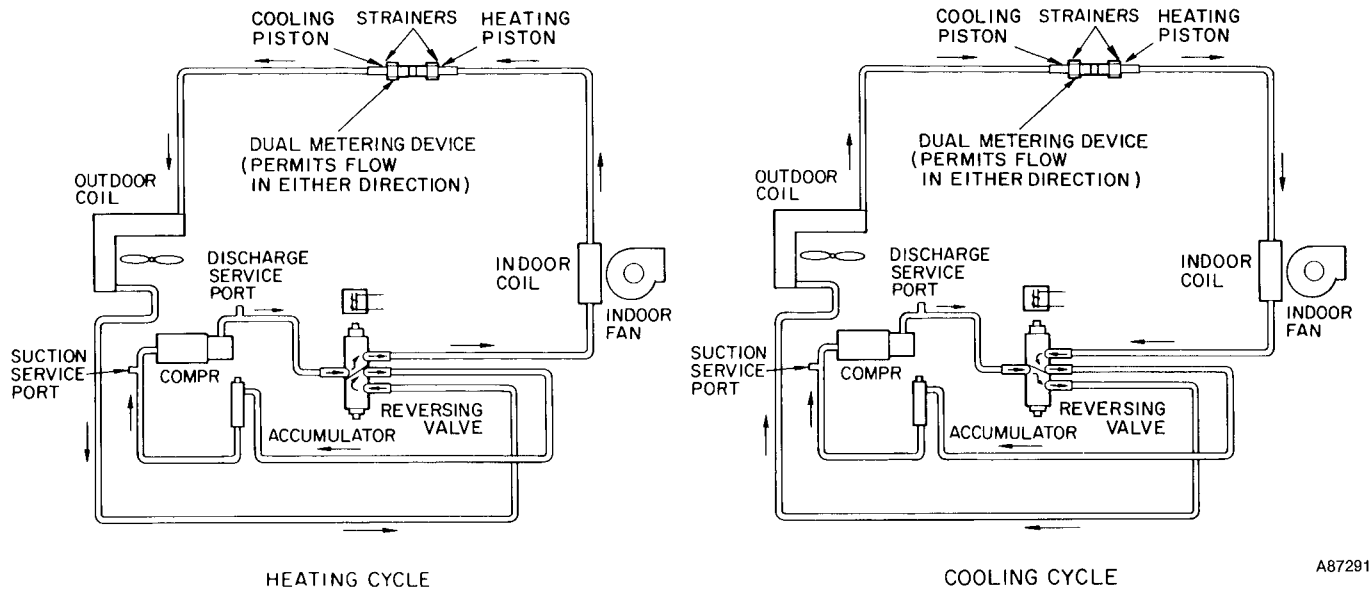

Fig. 10—Refrigerant Flow Diagrams
**HEAT PUMP CIRCUITS** shown in Fig. 10 are refrigerant flow diagrams for heating and cooling cycles.